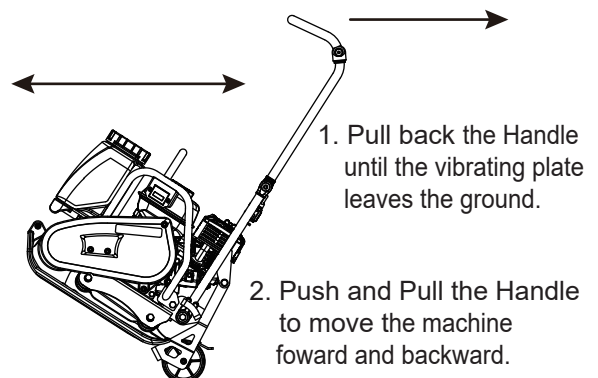

Fig. 8
- Check that the cart rotates smoothly by moving the machine forward and backward. (Fig. 8)